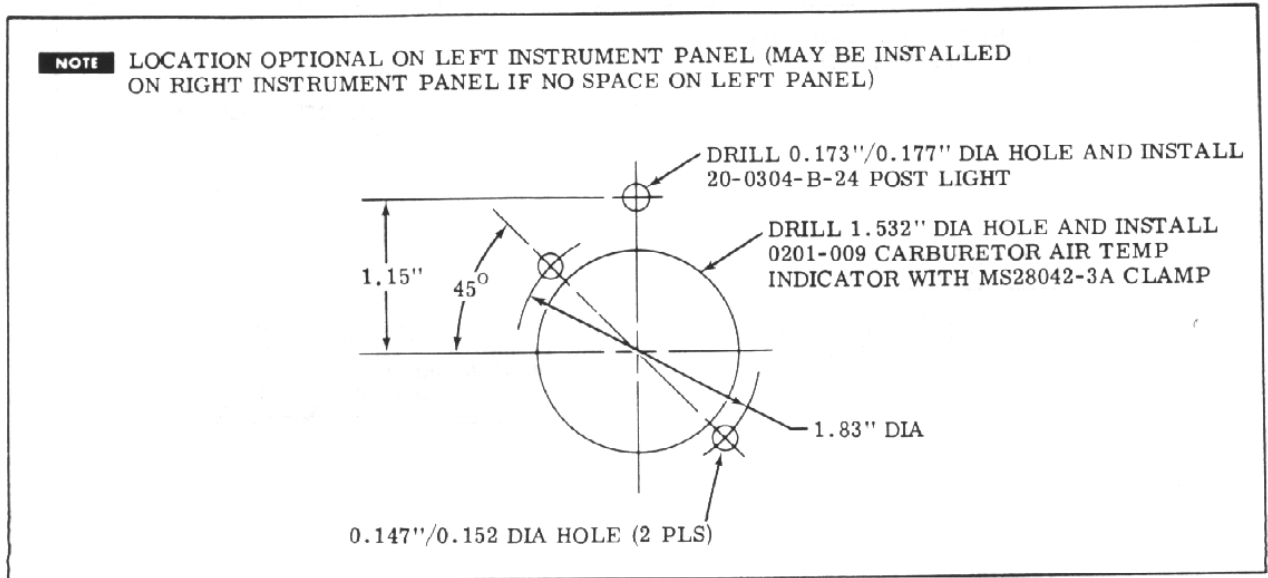

Figure 5.
29. Locate and make cutouts in left instrument panel for 0201-009 carburetor air temperature indicator and 20-0304-B-24 post light (see Figure 5).
30. Install 0201-009 carburetor air temperature indicator on left instrument panel with MS28042-3A clamp (see Figure 5).
31. Install 20-0304-B-24 post light on left instrument panel (see Figure 5).